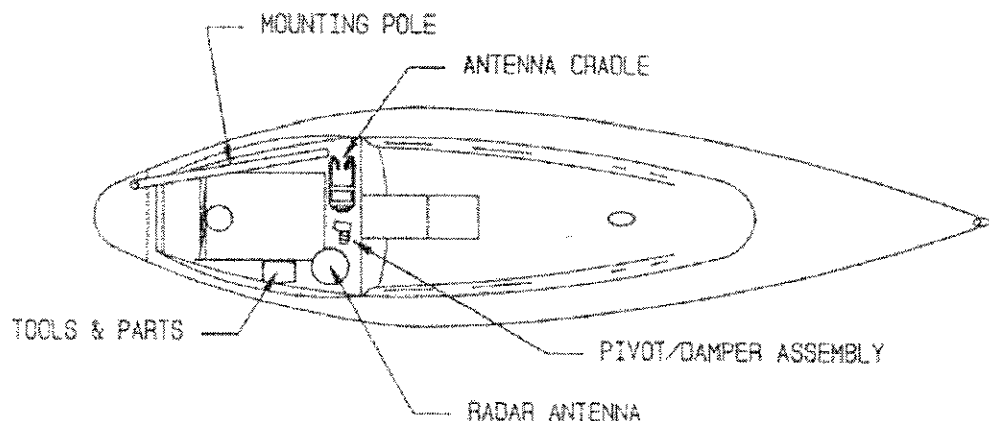

FIGURE 1
- A. Set up your work area. In most cases the assembly and installation can be performed in the cockpit of the boat with the pole laid fore and aft and the bottom end of the pole near the transom. (See figure 1.)